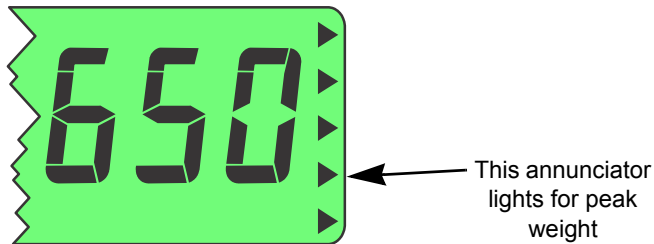

Figure 3.2 Min/Max annunciators
Only the highest weight applied to the scale is displayed when the peak weight value is selected to be displayed. Peak weight is designated by the annunciator shown in Figure 3.2.
1. Repeatedly press **SELECT** until the annunciator shown in Figure 3.2 lights. This means you are now viewing the peak weight.